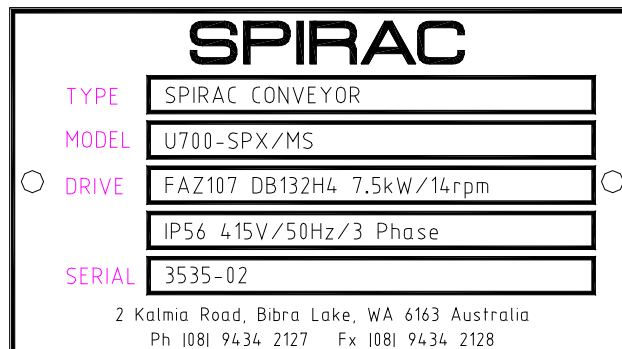

Figure 2.1.2a
There is one identification plate (ID) on each conveyor. *Figure 2.1.2a* shows an example of a typical ID plate.